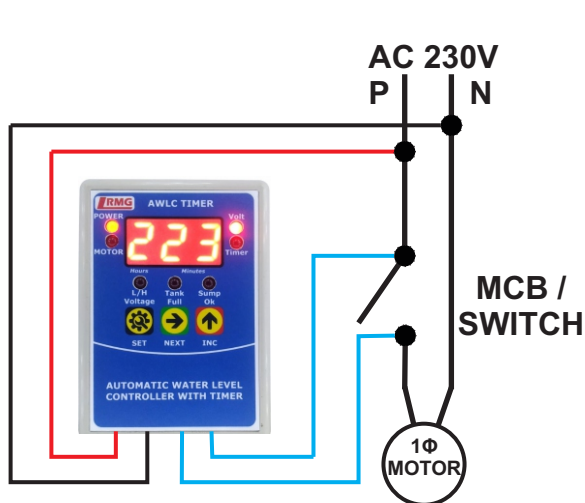

Figure1: 1Φ SWITCH/MCB
Step 2: As per the model purchased, check the label and connect AC supply (230V / 440 V) to red and black wire of timer refer figure 1.
Step 3: For switch or MCB, Connect blue pair wire to the switch/MCB of the motor in parallel as shown in figure 1.